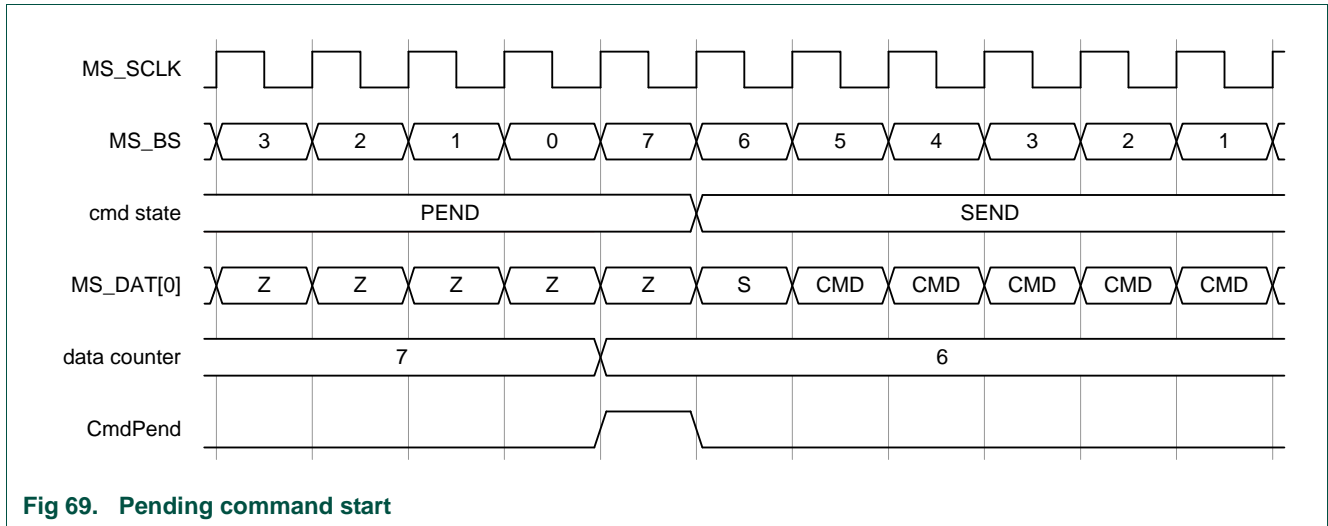

Fig 69. Pending command start
- To start transferring a pending command (see Figure 69). This is used to send the stop command for a stream data transfer.